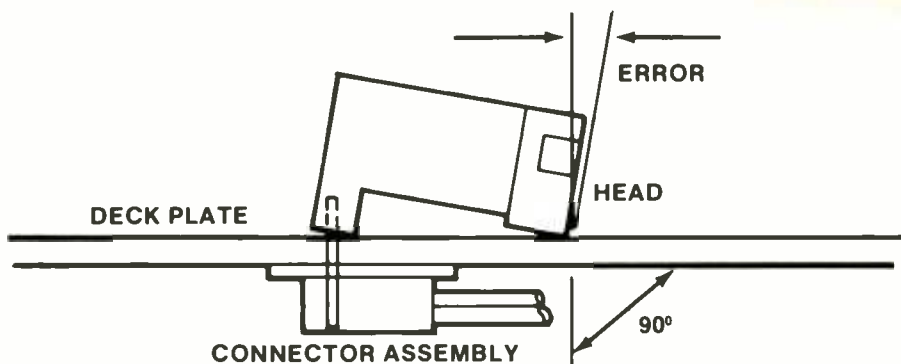

Figure 3: Correct seating of head connector is essential before making further adjustments.
**Head Set-Up:** Before attempting any head adjustments on the JH-110 recorder ensure that the head connector is not fully bottomed in the connector, and thereby spacing the head stack off the deck. The easiest way to determine if this presents a problem is to simply back off the screws that retain the head plug assembly on the bottom of the deck, and check if it pushes away from the deck plate. If it does, space it off of the deck with washers. Position the plug bracket just a skosh farther away from the deck then it sits naturally (Figure 3). **Update:** The 30 IPS playback low-end response on most JH-100s and older -114s often leaves a lot to be desired. This can be remedied to a large extent by the replacement of R103 (1.3 megohm) with a 0.0018 mF capacitor. To protect yourself, it is also advisable to put a 200 to 400 kohm resistor in series with this new cap, to limit the range of the pot.